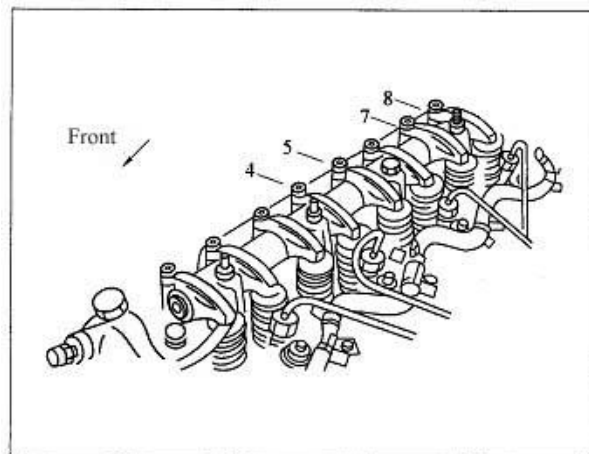

Figure 3-22 Adjust the 4th,5th,7th and 8th Valve Clearance
(3) After adjusting 1st, 2nd, 3rd, and 6th valve clearance, turn the crankshaft one cycle to let the piston of No.4 cylinder reach TDC position, adjust the 4th, 5th, 7th and 8th valve clearance with the same way (see Figure 3-22).